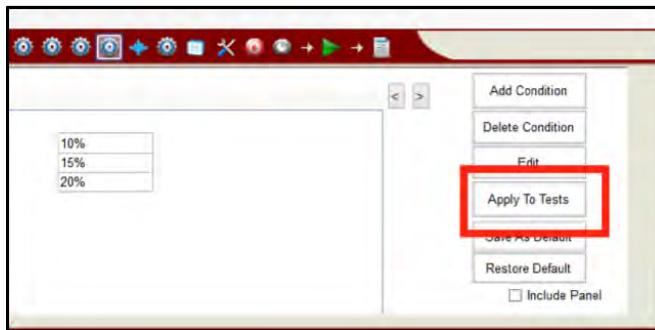
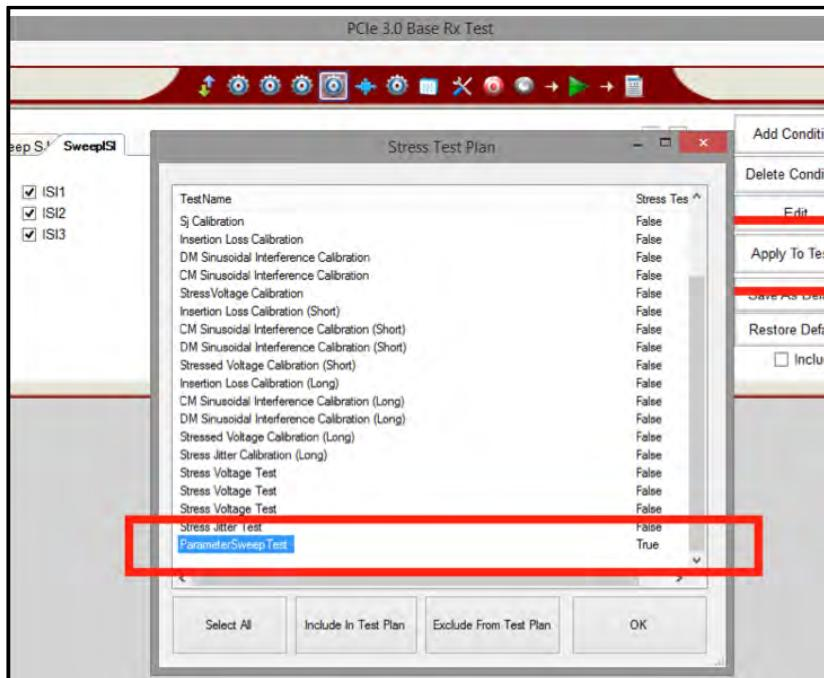

FIGURE 111 APPLY TO TESTS
FIGURE 112 SELECT APPLICABLE TESTS
6. From the menu, apply the sequences of parameters to the selected tests (see Figure 111 and Figure 112), which builds a “Stress Test Plan”.